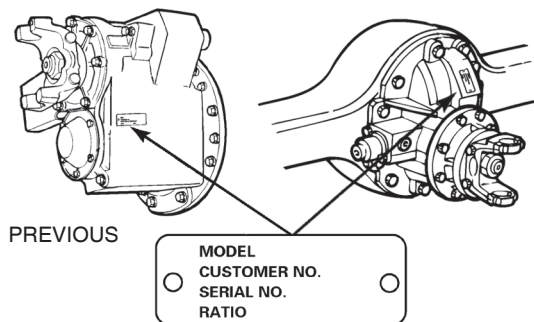

Figure 4.15
1. Locate the identification tags riveted to the forward and rear of differential. Figure 4.15.